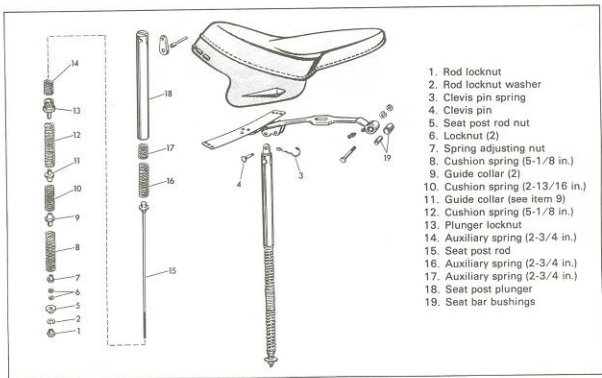

Figure 2-71. Seat Post - Exploded View
DISASSEMBLING SEAT POST (Figure 2-71)
Wash and air dry all parts. Inspect for broken or "set" springs. New spring length appears in Figure 2-71 listing. Replace seat bar bushings (19) if worn appreciably.
ASSEMBLING SEAT POST (Figure 2-71)